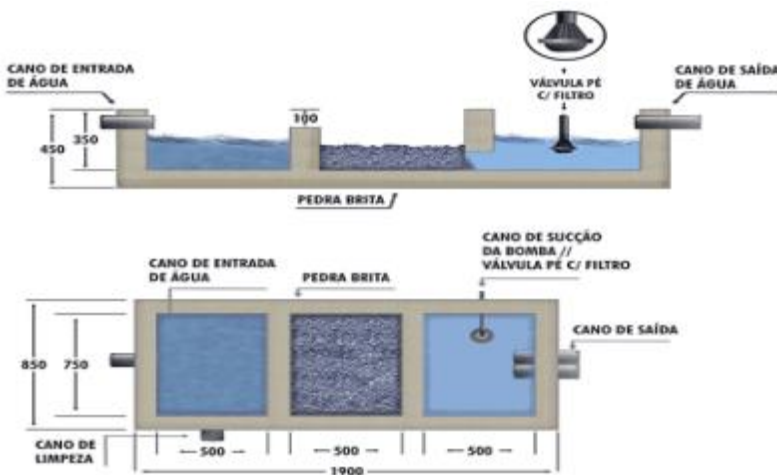

Figure 2
- The system of water uptake can also be done by sedimentation as shown in Figure 2.